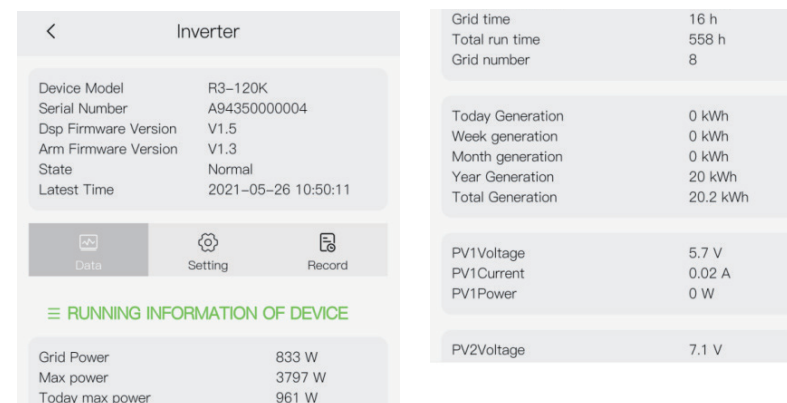

Fig 7-3
- ④. It enters the interface in Figure 7-3 after successful connection. This page will display the basic information of the device, and users can view and set the information by clicking the icons of "Data", "Setting" and "Record" on this page.